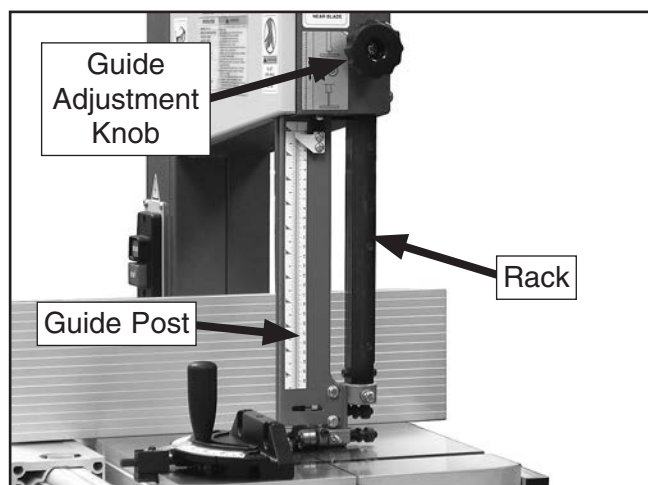

Figure 56. Guide post rack lubrication.
3. Wipe the old grease off the rack (the long plate with teeth). The old grease will be contaminated with sawdust, so you want to remove as much of it as possible (**Figure 56**).